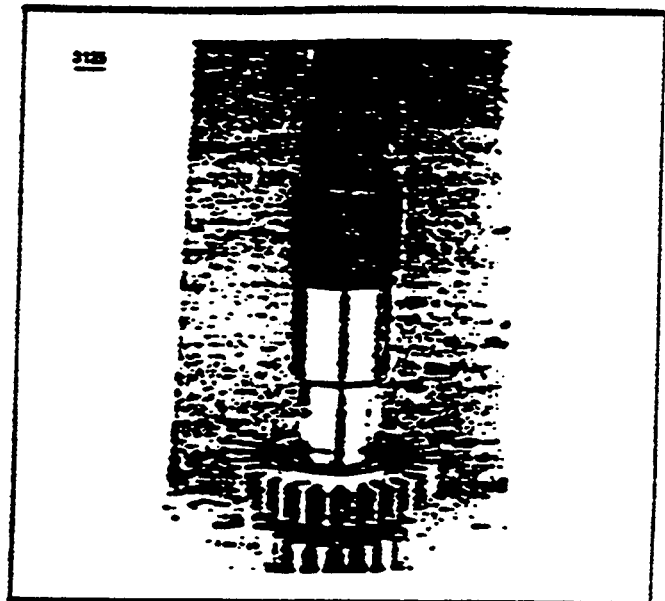

Figure 2. Pressing On Bearing Race
5. See Figure 2. Position the mainshaft upright as shown. Position the replacement gear from kit over shaft with oil retention groove upward. Place the bearing inner race on end of shaft with lettered side upward. Place a suitable sleeve against the bearing race. Press the race onto the shaft until it contacts the gear. With the inner race properly installed, mainshaft first gear will have no end play.